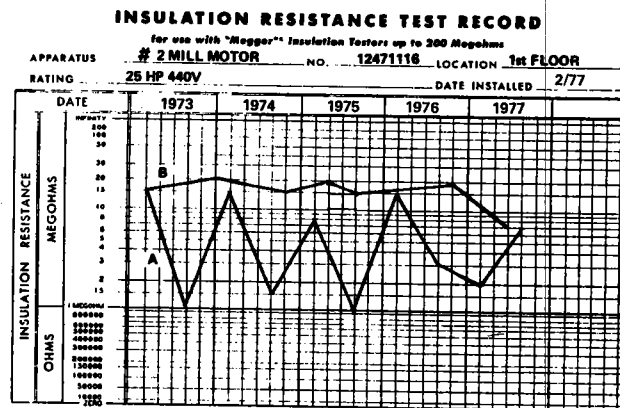

Figure 3-5. Data Card Showing Plot of Actual Readings (A) and Temperature Corrections (B)
b. Record test results on data cards provided with ohmmeter. Put actual reading and temperature compensated reading (paragraph 3-7) on the front of the card (figure 3-5). On the reverse side of the card enter date, reading, equipment under test, base temperature correction factor, and adjusted insulation resistance.